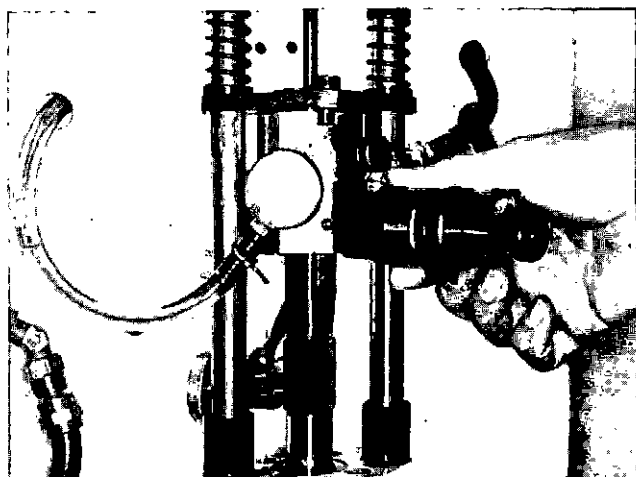

Fig. 4-62, (F60215). Assemble the ST-708 Tool to the adapter pot
14. Install the connector and ST-708 Tool into the Service Tool 3375086, ST-1058 or ST-1254 Body inlet by screwing in the large knob section, Fig. 4-62.